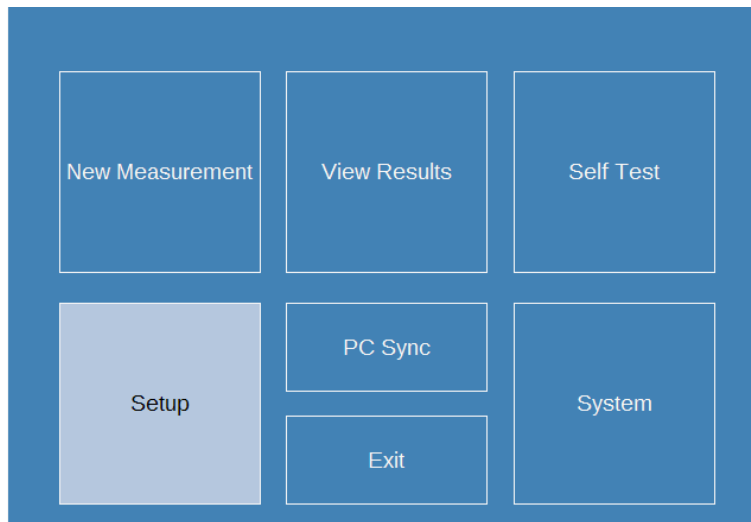

Figure 12-1: Main Menu
1. From the Main Menu screen as shown in Figure 12-1, press **Setup**.